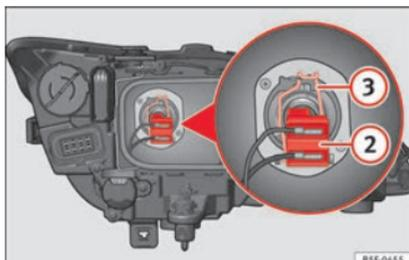

Fig. 103 Dipped beam headlights.
- Remove connector » Fig. 103 ② from the bulb.
- Unclip the retainer spring » Fig. 103 ③ pressing inwards to the right.